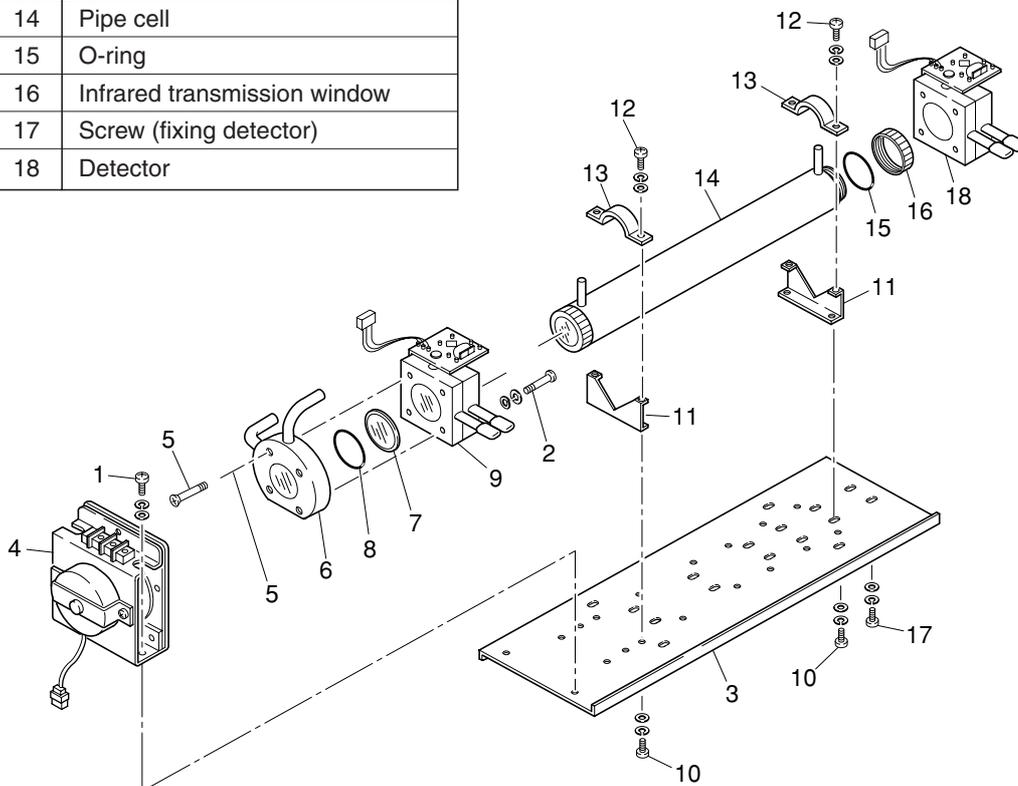

Fig. 7-3 Configuration of measuring unit (2-component analyzer: block cell + pipe cell)
(3) How to remove measuring unit (See Fig. 7-3)